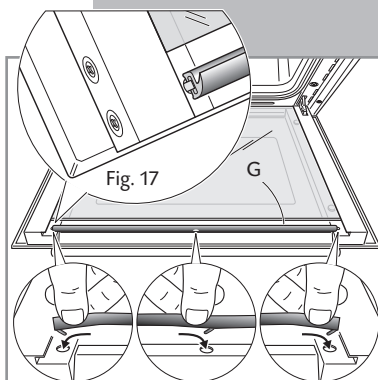

Fig. 18
- Reassemble the seal **G** in the correct way (fig. 17) by hooking the no. 3 fixing hooks in the proper holes (fig. 18).